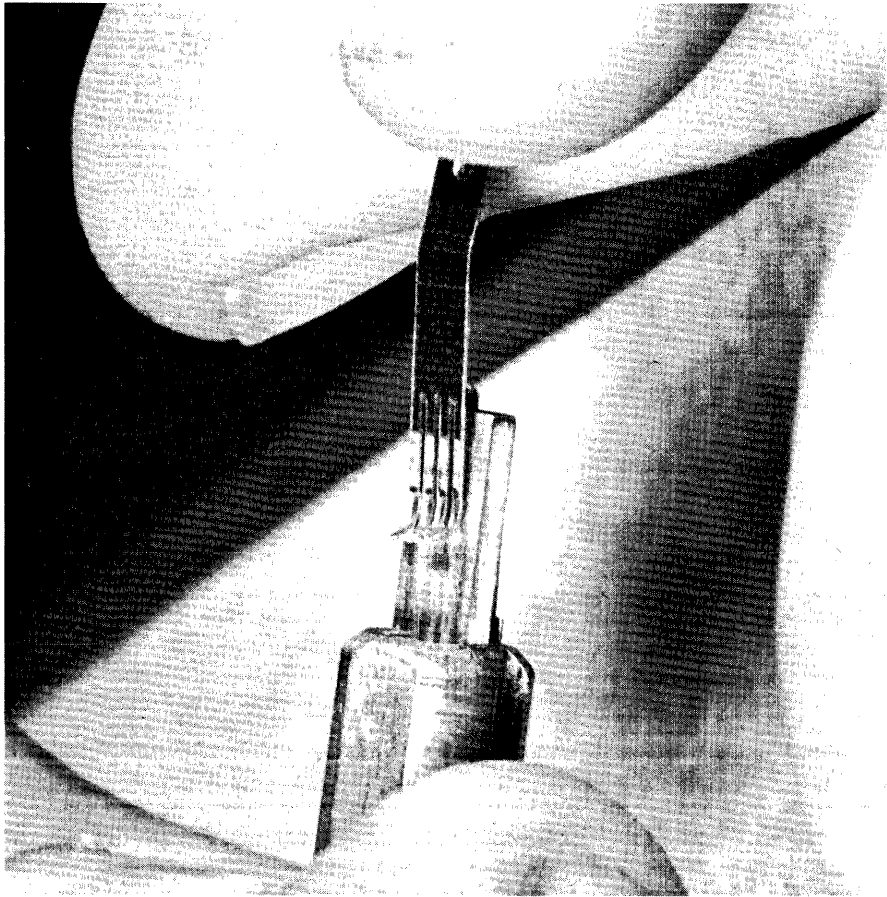
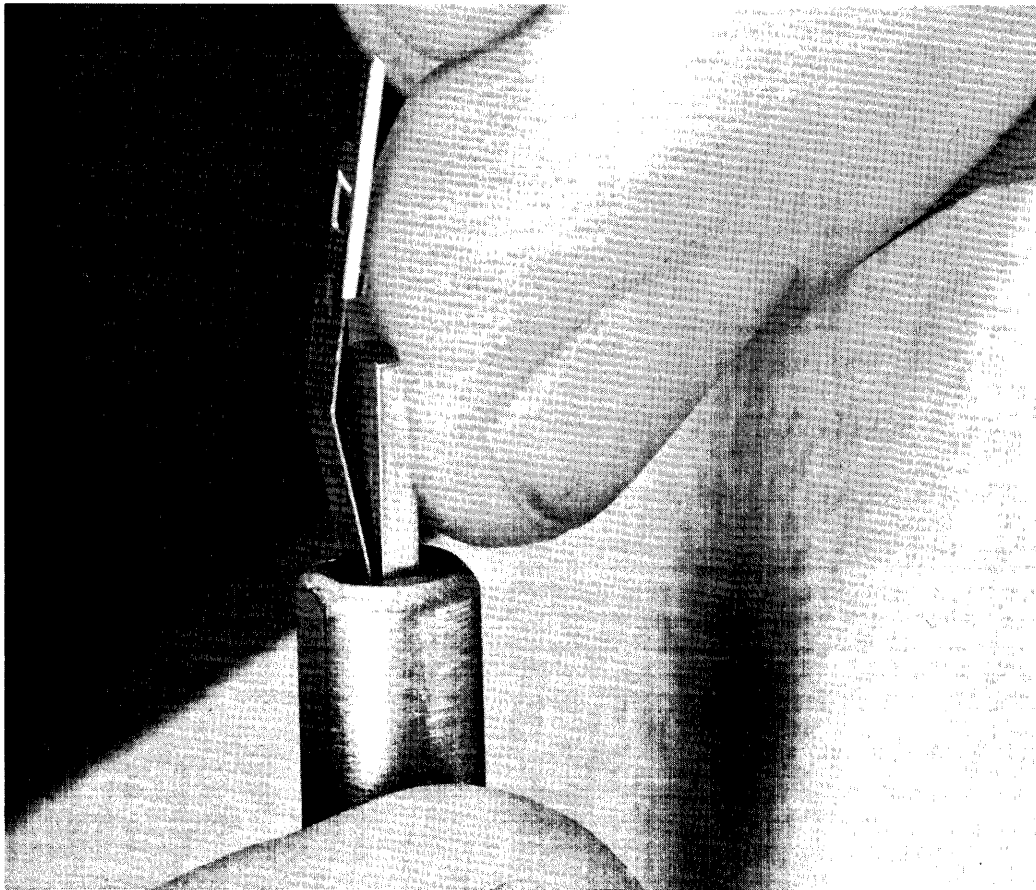

Figure 5-8
Figure 5-7
- h. Insert the solid contact (P/N 373-30052-2) in the insertion tool with the bend to the outside and the solder end up (see figure 5-7). Insert the split contact (P/N 373-30053-2) with the split end in first (see figure 5-8).